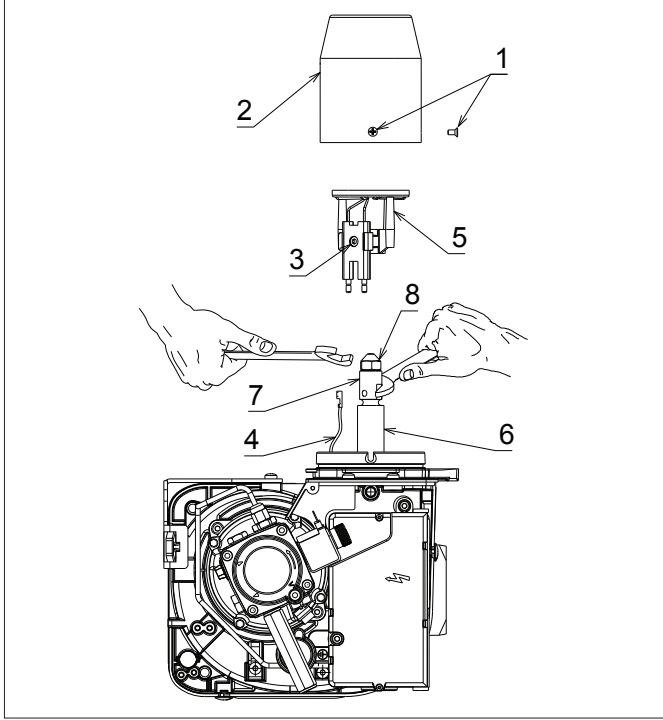
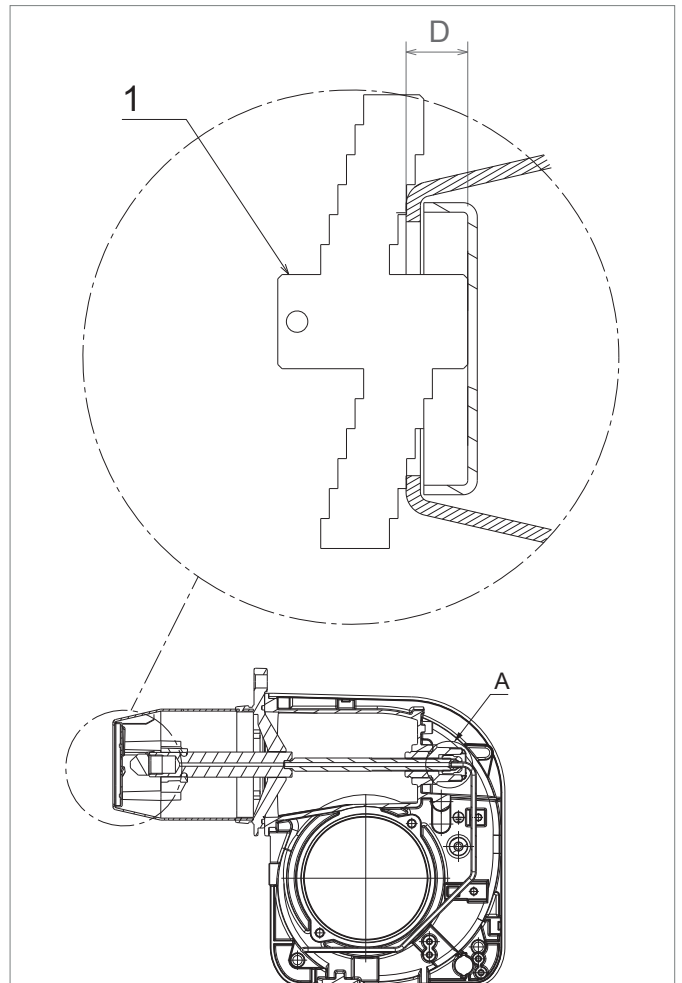

Figure 10-5: Burner head, recirculation tube (if fitted) diffuser and nozzle holder
Figure 10-7: Riello RDB 2.2 BX diffuser position and gauge plate
4. Remove the burner head. Refer to Figure 10-5. Loosen the three fixing screws (1) and remove head (2) from burner.
6. If the nozzle needs to be replaced - remove the diffuser/electrode assembly. Refer to Figure 10-5.
- Using a 4 mm Allen key, loosen the diffuser fixing screw (3) on the electrode assembly.
- Lift diffuser/electrode assembly (5) up and off the nozzle holder.
- Disconnect both ignition leads (4) from the electrodes.
8. Re-fit the diffuser/electrode assembly. Refer to Figure 10-5.
- Reconnect ignition leads (4) to electrodes.
- Re-fit the diffuser/electrode assembly (5) onto the nozzle holder lining up the fixing screw with the recess in the nozzle holder.
- Tighten the fixing screw (3) to secure the diffuser/electrode assembly in place on the nozzle holder.
10. Re-fit the burner head. Refer to Figure 10-5.
- Locate the head fixing screws (1) in the countersunk slots in the burner collar.
- Tighten the three screws (1) to secure the head (2) in position on the burner.
11. Adjust the diffuser position. Refer to Figure 10-7.
- Position the gauge plate on the burner head as shown in Figure 10-7.
- If necessary, adjust distance D using the black adjustment knob located around the oil supply pipe on the front of the burner. Refer to item A (Figure 10-7). Re-check distance D using the gauge plate, as described above.